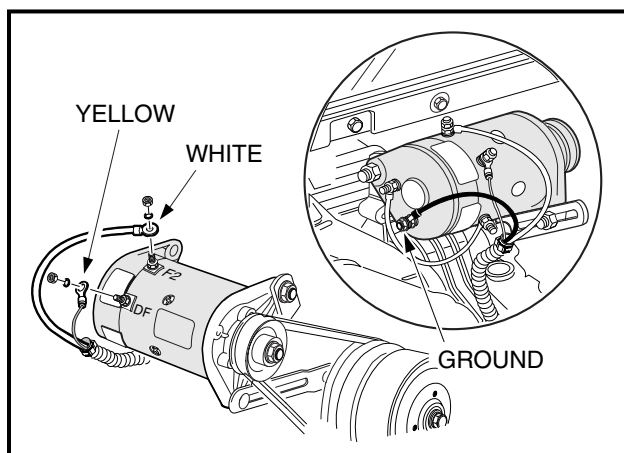

Figure 16-51 Starter/Generator
25. Connect the 6-gauge white wire to the F2 post and the 6-gauge black ground wire to the A2 post of the starter generator and tighten to 48 in-lb (5.4 N·m). Connect the 16-gauge yellow wire to the DF post and tighten to 30 in-lb (3.4 N·m) (**Figure 16-51, Page 16-20**).